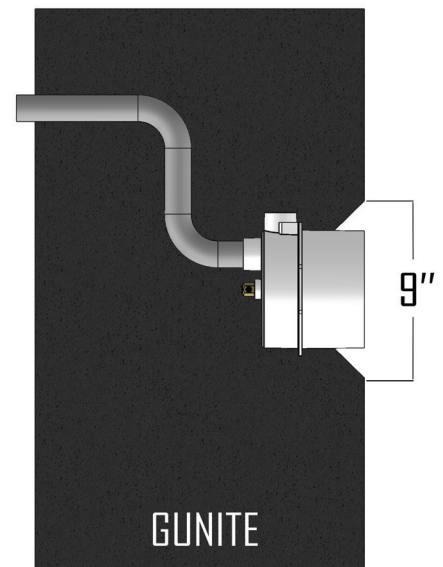

Figure 1
5. The outside bonding connection must be inspected before the concrete or gunite is applied. Follow applicable codes. It's important to maintain a 9" diameter undercut around the outside circumference of the niche and to avoid having concrete or gunite harden on its outer edge (See Figure 1).